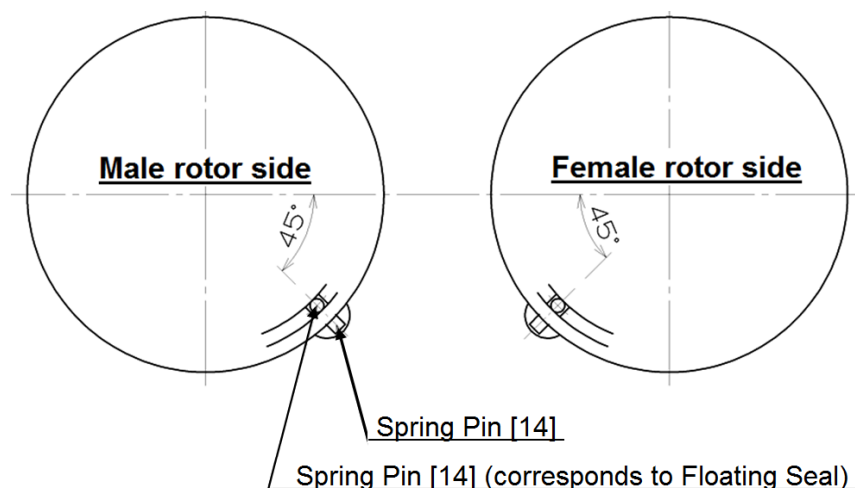

Figure 5-21 Spring Pins on the Main Bearing for the Bearing Head
- Set the O-rings [28-2] on the floating seals (A) [28-1] after applying the silicone grease on the O-rings [28-2] for Male rotor and Female rotor.
- Insert the floating seals (A) [28-1] into the bearing head for Male rotor and Female rotor.
Care should be taken to the angle of the notch on the floating seal (A), since it must be fixed for anti-rotation by the spring pin located on the main bearing. Refer to Figure 5-21 below.